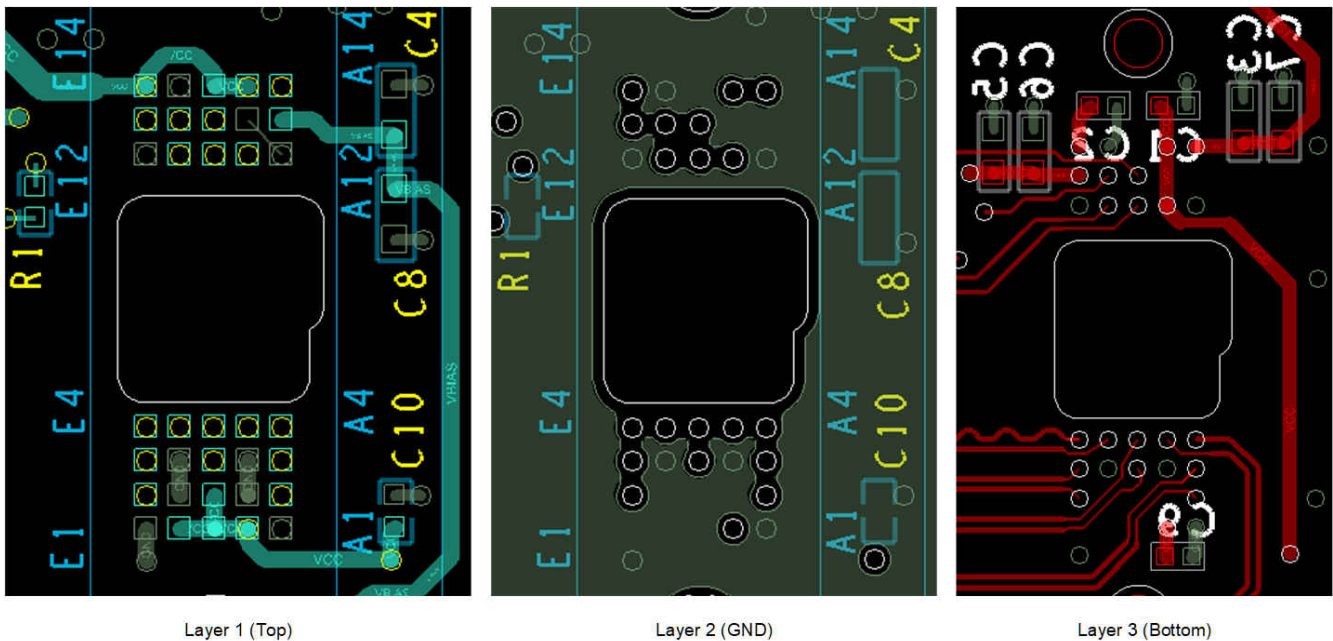

Figure 10-1. Power Supply Connections
- Minimize vias, layer changes, and turns for the HS bus signals. Refer to Figure 10-1.
- Minimum of two 100-nF (25 V) capacitors - one close to V_{BIAS} pin. Capacitors C4 and C8 in Figure 10-1.
- Minimum of two 100-nF (25 V) capacitors - one close to each V_{RST} pin. Capacitors C3 and C7 in Figure 10-1.
- Minimum of two 220-nF (25 V) capacitors - one close to each V_{OFS} pin. Capacitors C5 and C6 in Figure 10-1.
- Minimum of four 100-nF (6.3 V) capacitors - two close to the VDD/VDDI pins on each side of the DMD. Capacitors C1, C2, C9 and C10 in Figure 10-1.